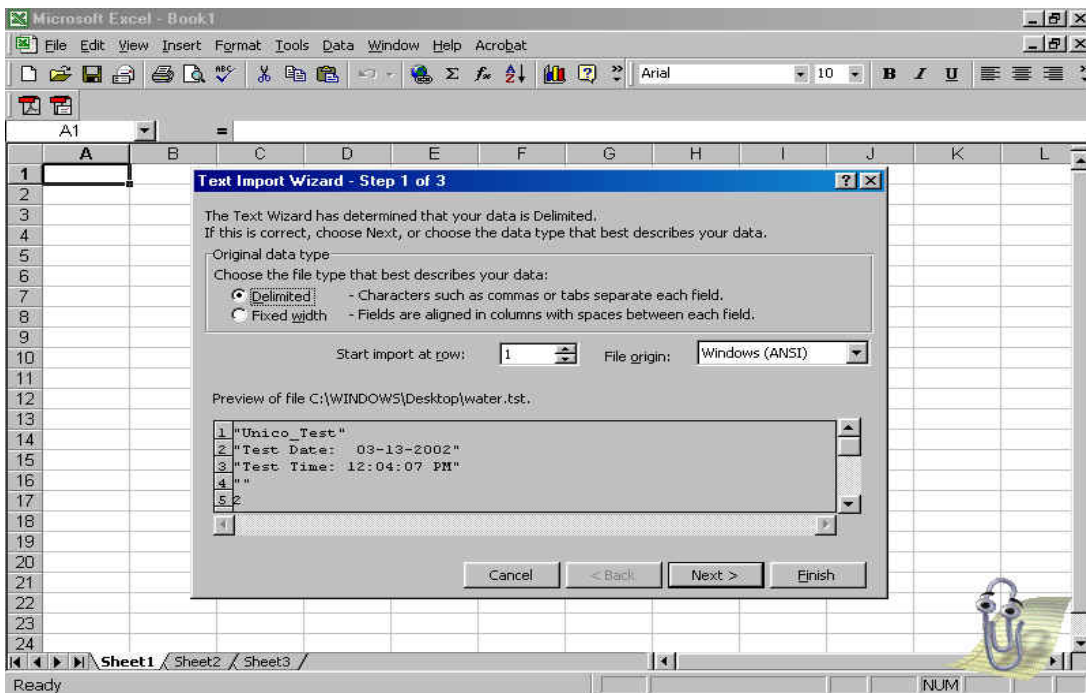

Figure-33 Excel Text Import Wizard I
Step 3: After the Excel Text Import Wizard appears, select **Delimited**, select the row from which you want the import to start, and click on the **Next** button as shown in Figure-33.